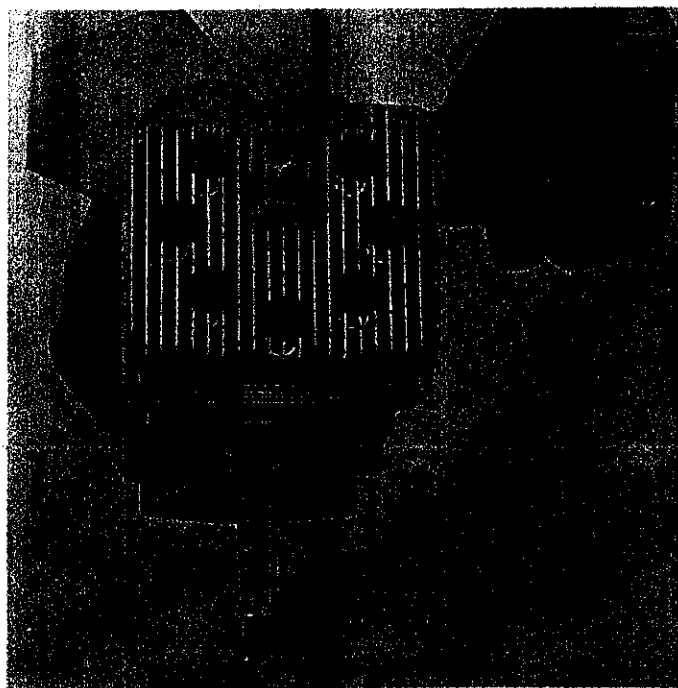

FIGURE 5. REMOVING CYLINDER
7. Remove the eight cylinder head screws, using a torque wrench or a T-1909, 3/16" allen wrench as shown in Fig. 5. When reinstalling, use a torque wrench and tighten to the specifications outlined in the torque chart, Section 4, for the model being worked on.